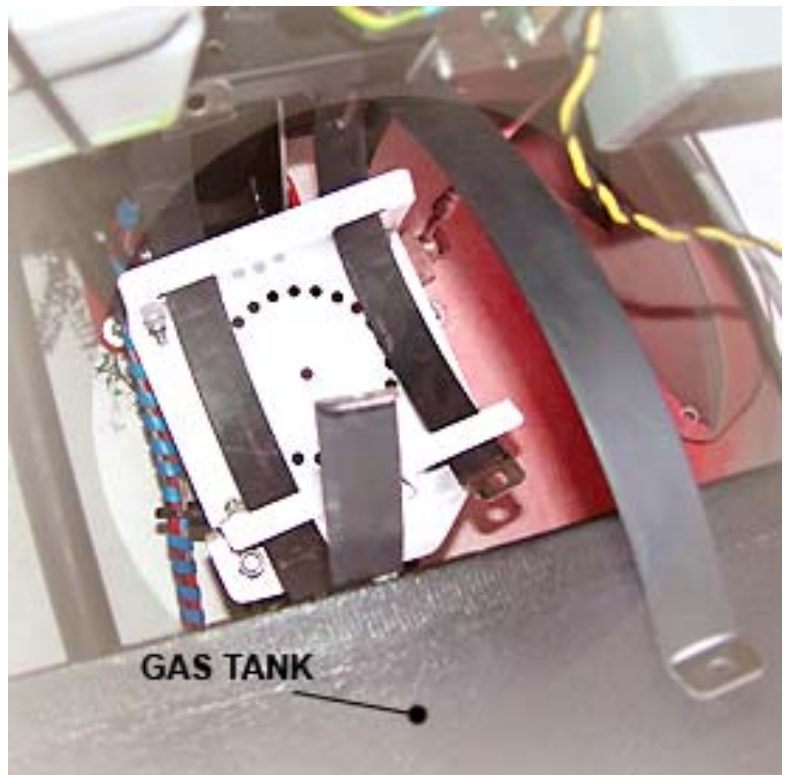

Figure 3-8
- 3.7 After passing the Band through both holes, stop immediately after the band has passed the second hole in the BRS Modular Mount, and leave it in the position shown in Figure 3-8.
At this point, the assembly should be as shown in Figures 3-8 (above) and 3-9. It is now configured to accept the BRS 1050 Parachute Canister, however this will not occur until Section 5.